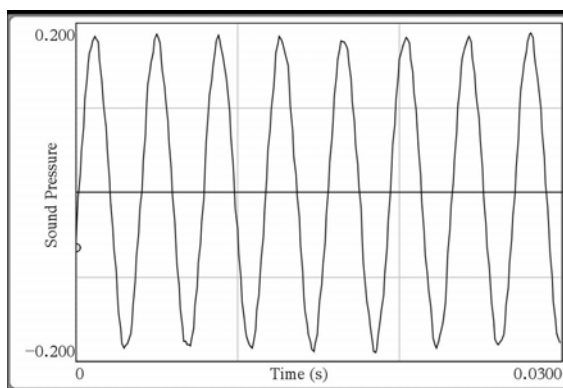

Figure 1
6. The data should be sinusoidal in form, similar to the graph in Figure 1. If you are using a tuning fork, strike it against a soft object such as a rubber mallet or the rubber sole of a shoe. Striking it against a hard object can damage it. If you strike it too hard or too softly, the waveform may be rough; collect data again.